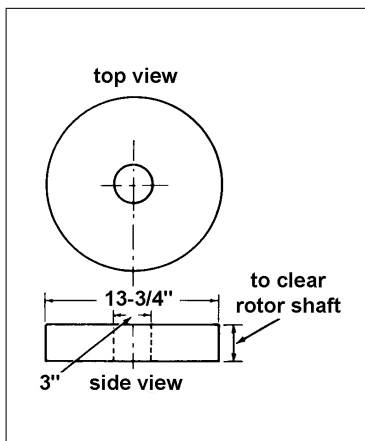

Figure 3B – Circular wood block
- Circular wood block (Figure 3B) to support rotor.